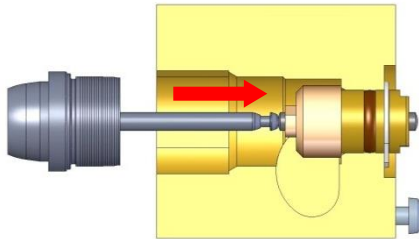

Fig. 1: Assembly of pistons
- Carefully push out the piston with the mounting rod and install the piston (→ Fig. 1).